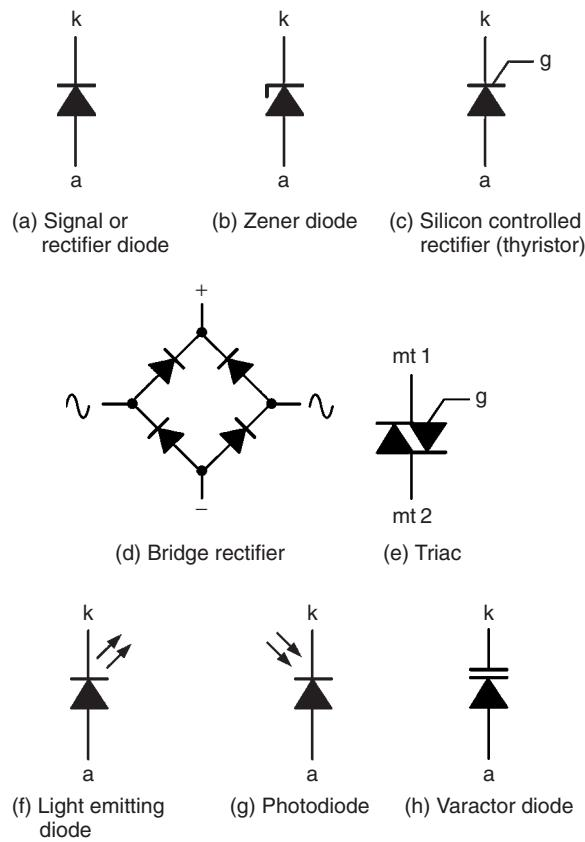
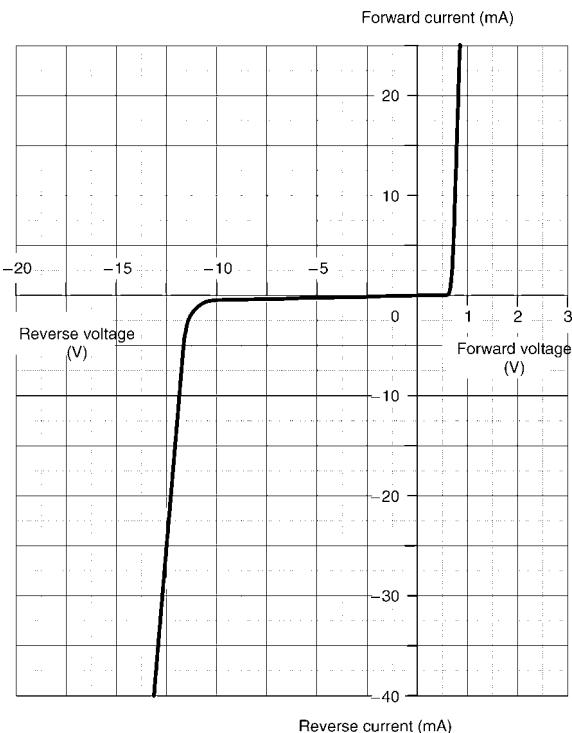
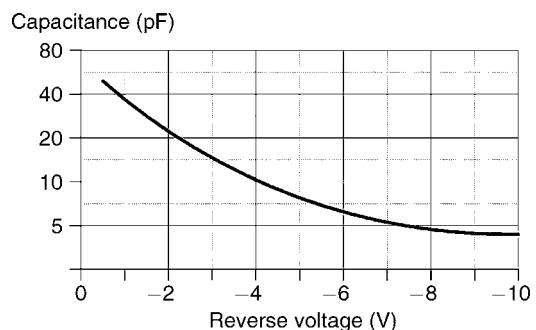

Figure 11.14
Figure 11.15
Figure 11.18
Various different types of diode are available for different applications. These include **rectifier diodes** for use in power supplies, **Zener diodes** for use as voltage reference sources, **light emitting diodes**, and **varactor diodes**. Figure 11.14 shows the symbols used to represent diodes in electronic circuit diagrams, where 'a' is the anode and 'k' the cathode.
**rectification.** Semiconductor diodes are commonly used to convert alternating current (a.c.) to direct current (d.c.), in which case they are referred to as **rectifiers**. The simplest form of rectifier circuit makes use of a single diode and, since it operates on only either positive or negative half-cycles of the supply, it is known as a **half-wave rectifier**. Four diodes are connected as a **bridge rectifier** – see Fig. 11.14(d) – and are often used as a **full-wave rectifier**. Note that in both cases, automatic switching of the current is carried out by the diode(s). For methods of half-wave and full-wave rectification, see Section 14.7, page 217.
Zener diodes are heavily doped silicon diodes that, unlike normal diodes, exhibit an abrupt reverse breakdown at relatively low voltages (typically less than 6 V). A similar effect, called **avalanche breakdown**, occurs in less heavily doped diodes. These avalanche diodes also exhibit a rapid breakdown with negligible current flowing below the avalanche voltage and a relatively large current flowing once the avalanche voltage has been reached. For avalanche diodes, this breakdown voltage usually occurs at voltages above 6 V. In practice, however, both types of diode are referred to as **Zener diodes**. The symbol for a Zener diode is shown in Fig. 11.14(b) whilst a typical Zener diode characteristic is shown in Fig. 11.15.
Like their conventional silicon diode counterparts, silicon controlled rectifiers have anode and cathode connections; control is applied by means of a gate terminal, g. The symbol for a silicon controlled rectifier is shown in Fig. 11.14(c).
diameter plastic packages and also in a 5 mm × 2 mm rectangular format. The viewing angle for round LEDs tends to be in the region of 20° to 40°, whereas for rectangular types this is increased to around 100°. The peak wavelength of emission depends on the type of semiconductor employed but usually lies in the range 630 to 690 nm. The symbol for an LED is shown in Fig. 11.14(f).
It was shown earlier that when a diode is operated in the reverse biased condition, the width of the depletion region increases as the applied voltage increases. Varying the width of the depletion region is equivalent to varying the plate separation of a very small capacitor such that the relationship between junction capacitance and applied reverse voltage will look something like that shown in Fig. 11.18. The typical variation of capacitance provided by a varactor is from about 50 pF to 10 pF as the reverse voltage is increased from 2 V to 20 V. The symbol for a varactor diode is shown in Fig. 11.14(h).